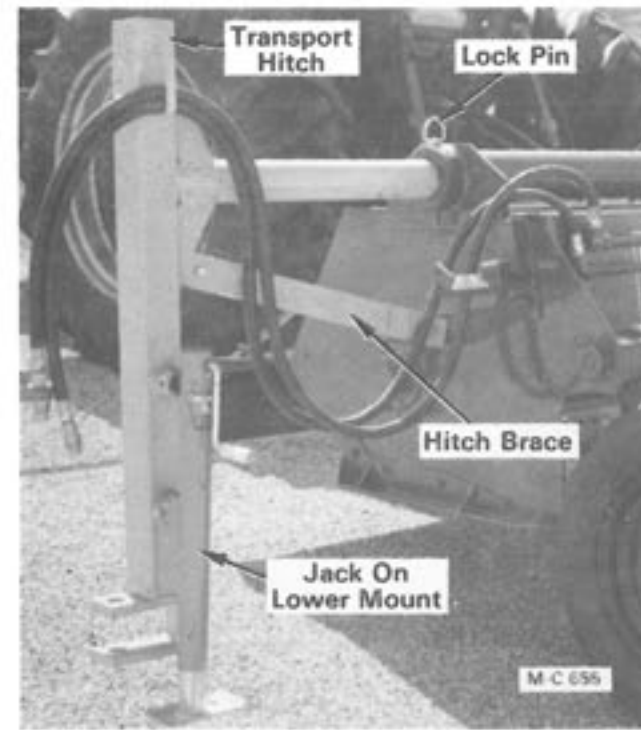

Figure 15G
- Pull the transport hitch assembly out and install the lock pin, see Figure 15G. Secure the lock pin with the hair pin clip. Connect the transport hitch brace to the Shredder.
- Move the jack on the end transport hitch down to the lower jack mount, see Figure 15G.